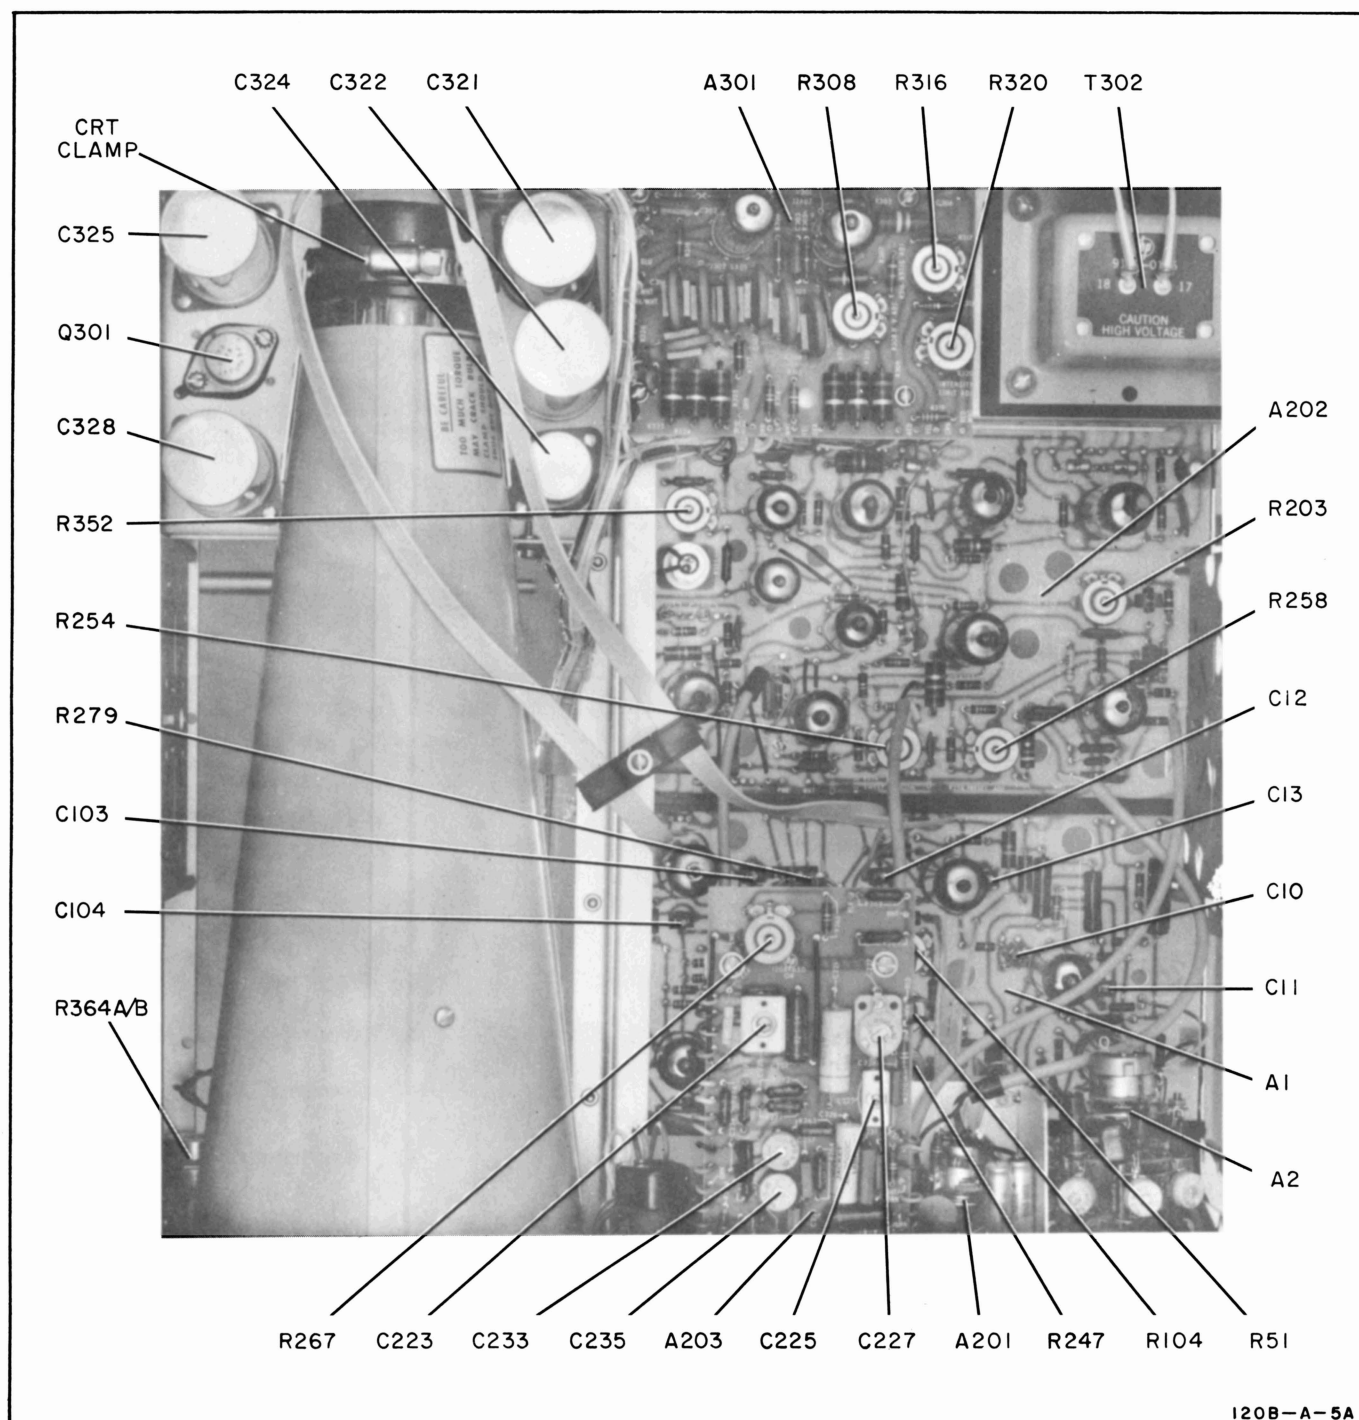

Figure 5-1. Top View, Location of Parts and Adjustments
to isolate a malfunction to a particular functional section of the Model 120B; and sectional troubleshooting, which is used to locate the faulty detail part. Figures 5-1 through 5-4 show the location of parts whose designations are not directly imprinted on a circuit board or chassis.
- Loosen clamp screw (figure 5-1) on crt base; do not remove screw or clamp.
5-29. -150-VOLT ADJUSTMENT. Using a dc VTVM, adjust potentiometer R352 (figure 5-1) for -150 volts dc.
- b. Adjust potentiometer R308 (figure 5-1) for a voltmeter reading of -2500 volts.